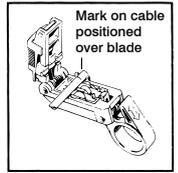

Figure 4
D. Hold the tool with the handle towards you and insert coax from left into the groove position. Close and latch tool. (Figs. 4 and 5)